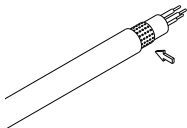

Figure 3
3. Expose screening - FSEM only (Figure 3).